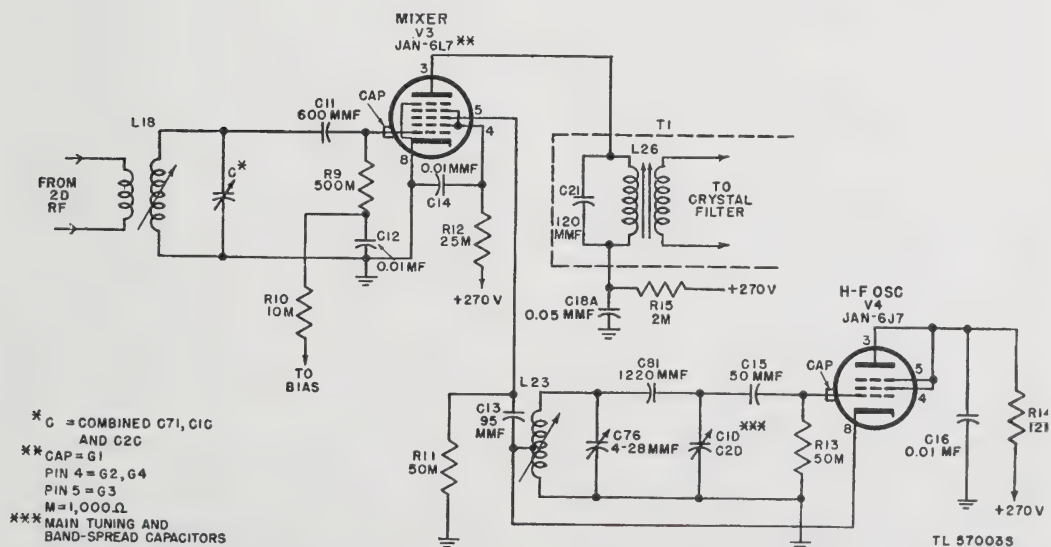

Figure 27. Radio Receiver BC-779-B, functional diagram of mixer and h-f oscillator stages.
60. Mixer and H-F Oscillator (fig. 27)